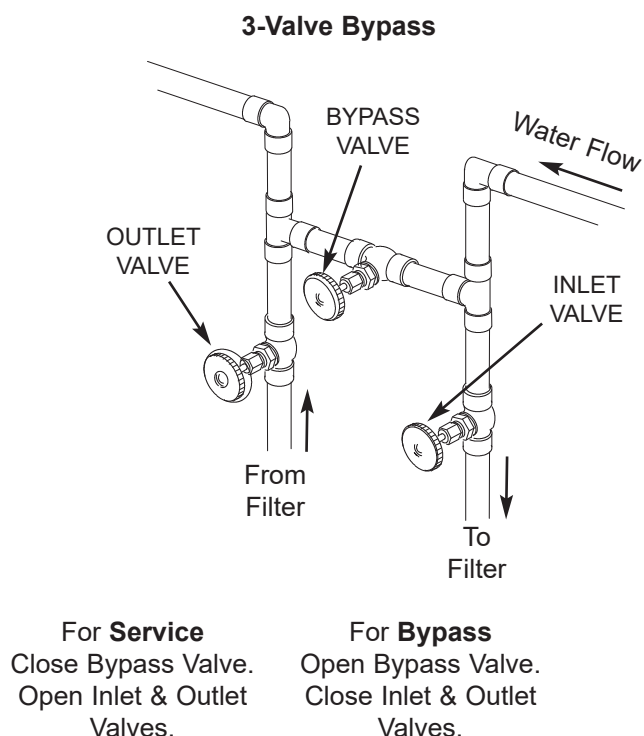

FIG. 82
3-VALVE BYPASS (See Figure 82)
4. Are plumbing bypass valve(s) in service position (See Figures 82 & 83 on Page 24)?